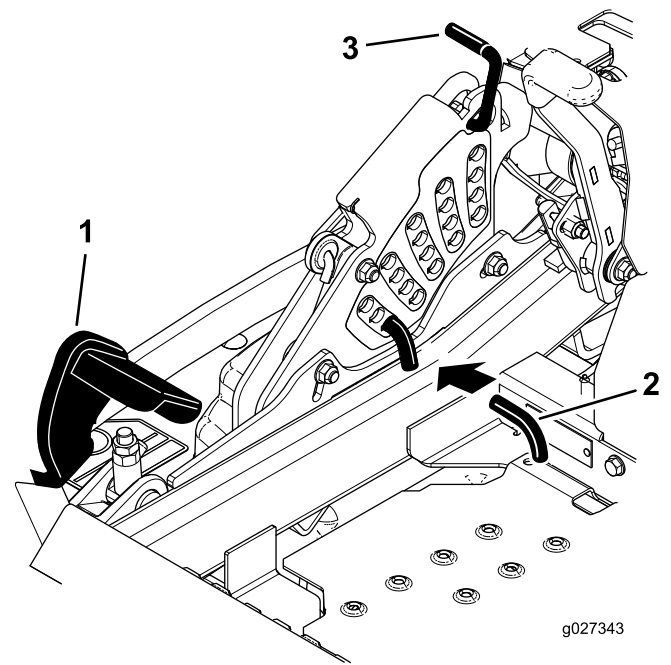

Figure 95
5. Push the deck-lift pedal all the way forward and the deck latches at the 14 cm (5-1/2 inches) transport position (Figure 95).